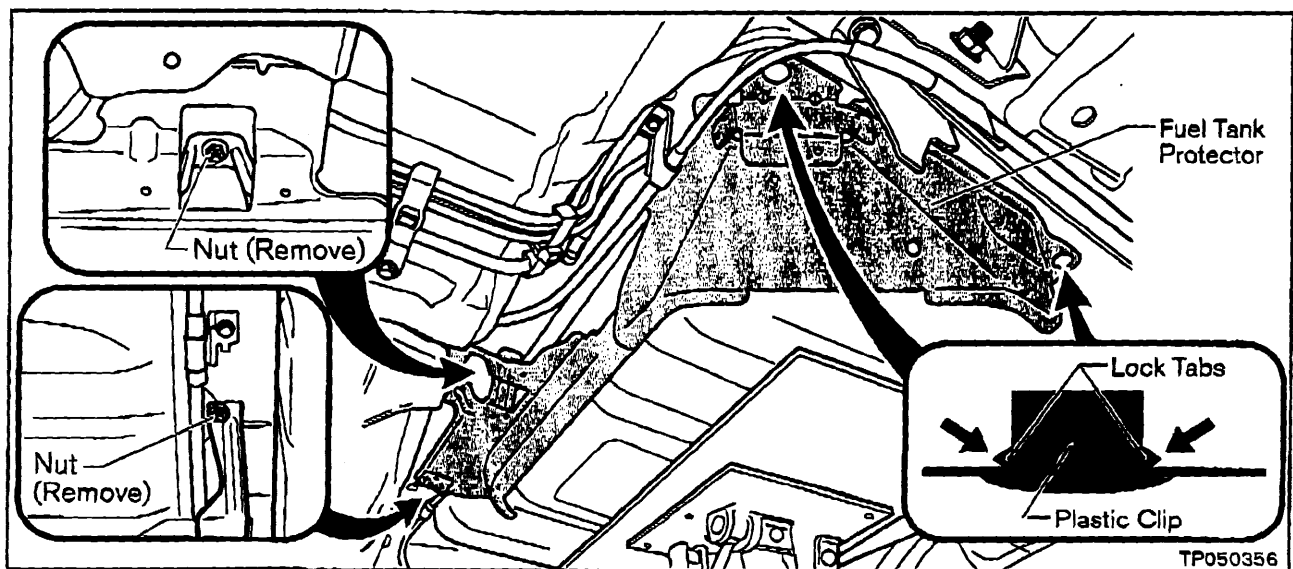

Figure 10
- a. Remove two Nuts and two Plastic Clips that hold the Fuel Tank Protector (see Figure 10).
- To remove the Plastic Clips, press IN on the Lock Tabs (see Figure 10).